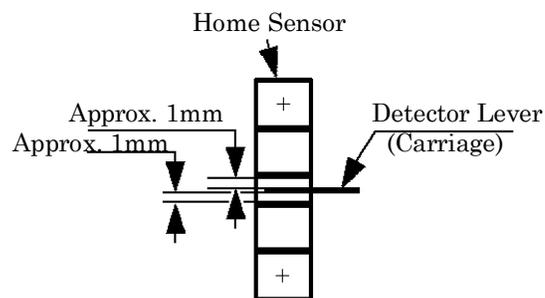

Figure 4-9. First Character printing Position
- You also need now to determine that the first character printing position is accurate (see Figure 4-9). If it is not, follow the procedure for that adjustment on page 4-8.
- Position the space motor one way or the other so that when the power is on the print head returns and stops at the home sensor position illustrated in Figure 4-9 below.